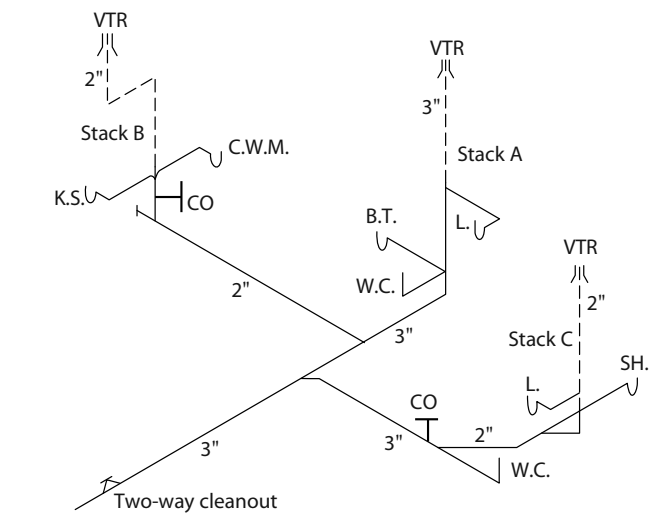

Figure 5-12
- 4) Where there's a two-way cleanout in the building drain that permits rodding upstream to the base of a stack, such as for stack A in Figure 5-12, you don't need a cleanout at the base of the stack itself. But this only applies on main drains, not on branch lines, as a rodding machine can't make the turn into a branch. Thus, as shown in the diagram, both stacks B and C, since they're on branch lines, *will* require a cleanout at their base.